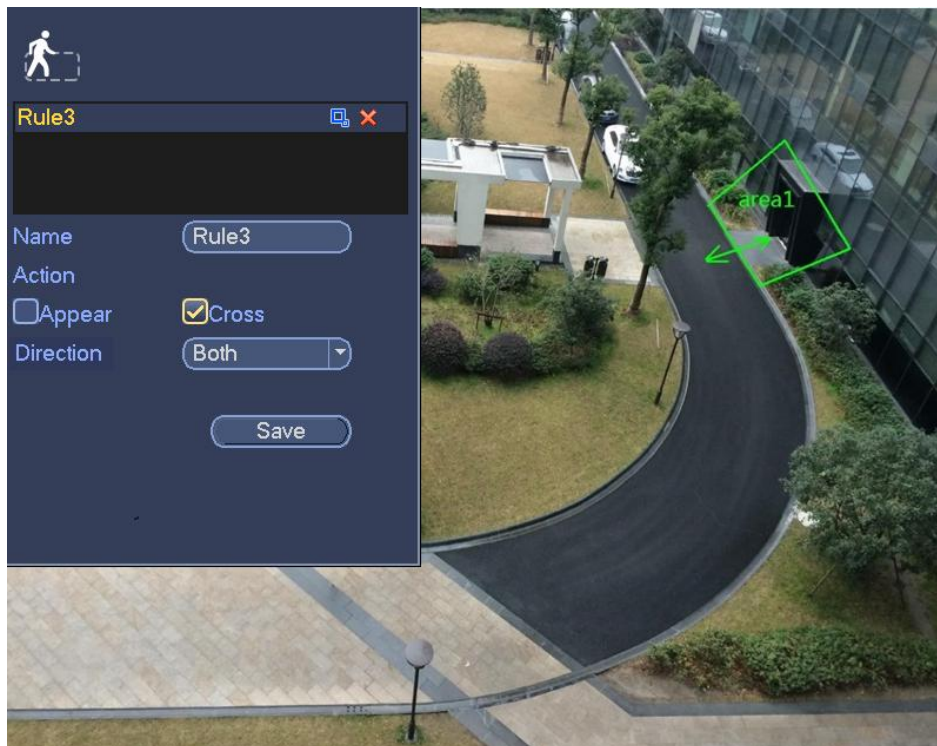

Figure 4-148
1. Click draw button  to draw the zone. See Figure 4-148.